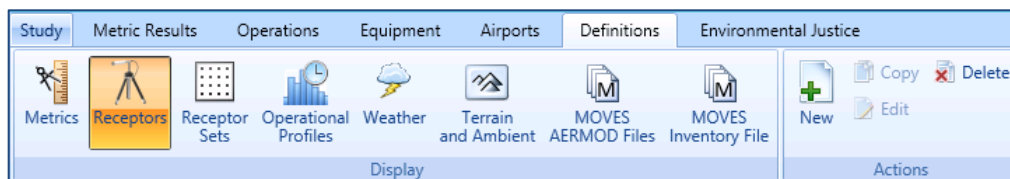

Figure 15. Definitions Tab – Receptors
1. From the *Definitions* tab, *Display* ribbon group, select *Receptors* (Figure 15).